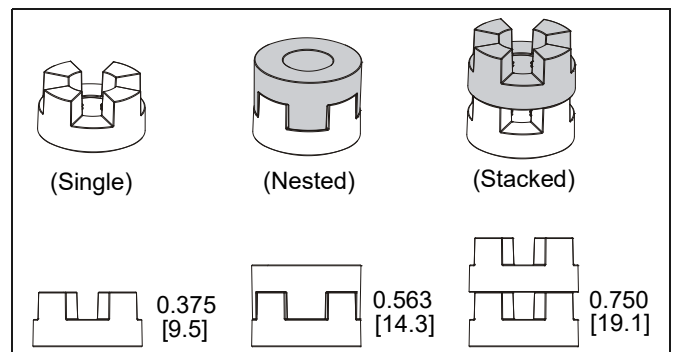

Figure 6
**IMPORTANT ! :** The M8 screws do NOT require a washer. Use the universal washer (H) only with M6 screws (A, B, or C).
**NOTE:** The nesting spacers (G) may be used separately, or put two together in different configurations to create different size spacers. (See Figure 6)